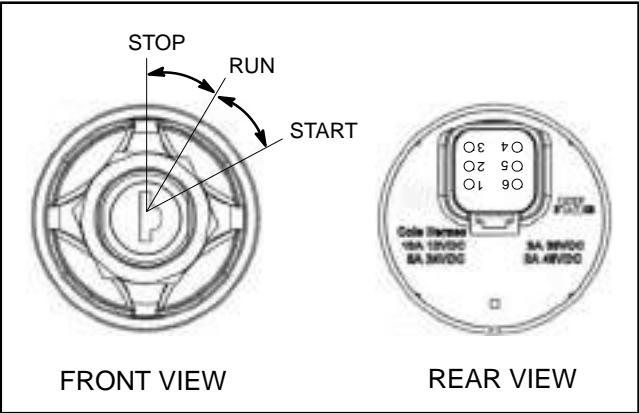

Figure 22
- 5. The ignition switch terminals are identified in Figure 22 and the circuitry of the switch is shown in the chart in Figure 23. With the use of a multimeter (ohms setting), the switch functions can be tested to determine whether continuity exists between the various terminals for each switch position. Verify continuity between switch terminals.